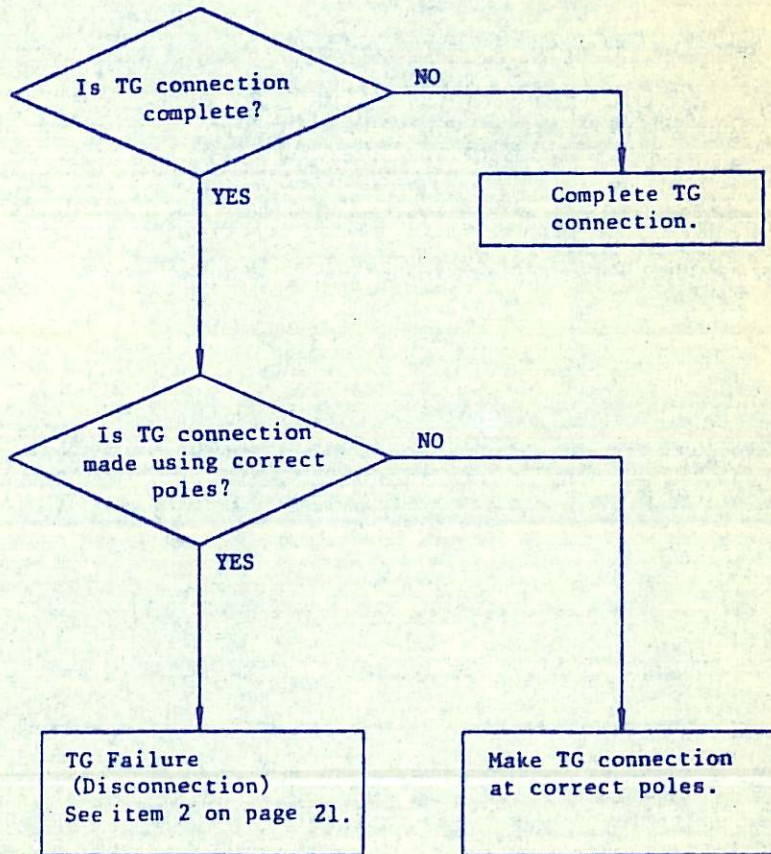

Fig. 9
1. When turning on control power or main power, a trouble indicator light 1LED goes on. See Fig. 9.